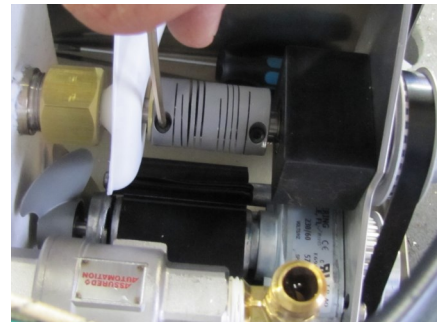

Figure 7
7. Loosen one of the set screws on the coupler to facilitate removing the agitator motor assembly. Reference Figure 7.